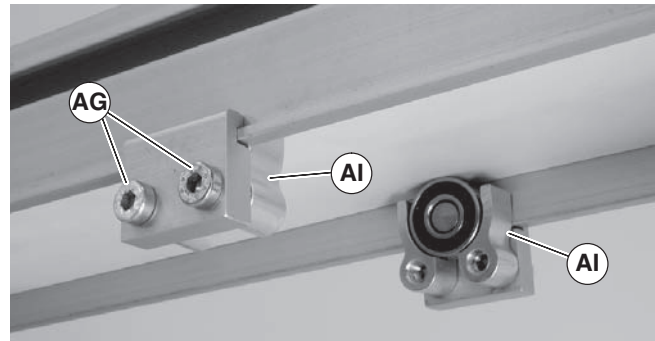

Figure 13
3. Install roller assemblies (Figure 13, item AI) as shown. Tighten screws (AG) to 60 in-lb (7 Nm).